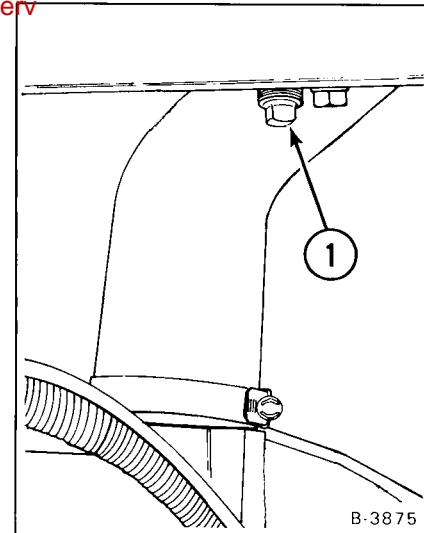

Fig. 1-43 Spark Arrestor Muffler Plug Location
- (1) Open the rear door.
- (2) Remove the plug at the bottom of the muffler (Fig. 1-43, Item 1).
- (3) Start the engine and run it about 10 seconds. Hold a piece of wood over the exhaust outlet to force exhaust gases through the muffler plug.
- (4) Stop the engine and install the plug and tighten it.
- (5) Close the rear door.